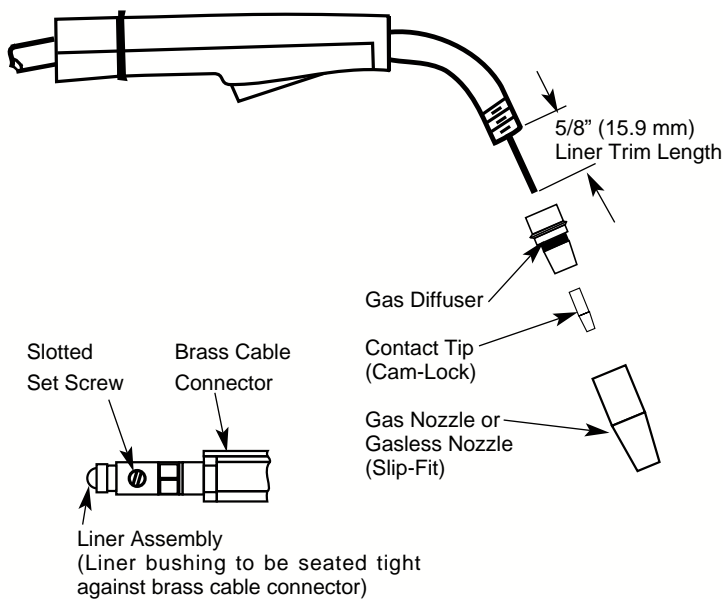

FIGURE D.2a
1. Refer to Figure D.2a or D.2b. Remove the gas nozzle from the gun by pulling it off the diffuser. (Threadless slip fit).
NOTICE: The variation in cable lengths prevents the interchangeability of liners. Once a liner has been cut for a particular gun, it should not be installed in another gun unless it can meet the liner cutoff length requirement. Refer to Figure D.2a or D.2b.
7. With the gas nozzle and diffuser removed from the gun tube, be sure the cable is straight, and then trim the liner to the length shown in the Figure D.2a or D.2b. Remove any burrs from the end of the liner.